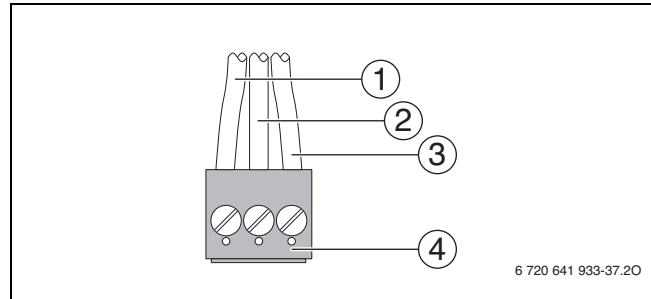

Fig. 46 Attach plug (external DHW tank loading pump or 3-way valve)
- ▶ Connect cable to **the red plug** according to Fig. 46.